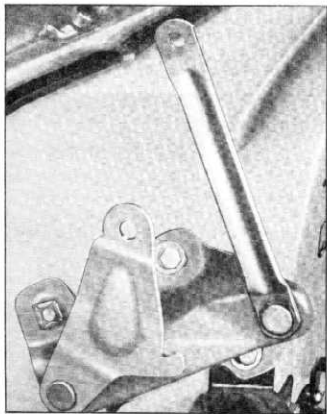

Fig. 7—Hood Hinge to Cowl
1. Place hood hinge in position on cowl (fig. 7), align all bolt holes and start the hex head bolts and washers attaching hood hinge to cowl.